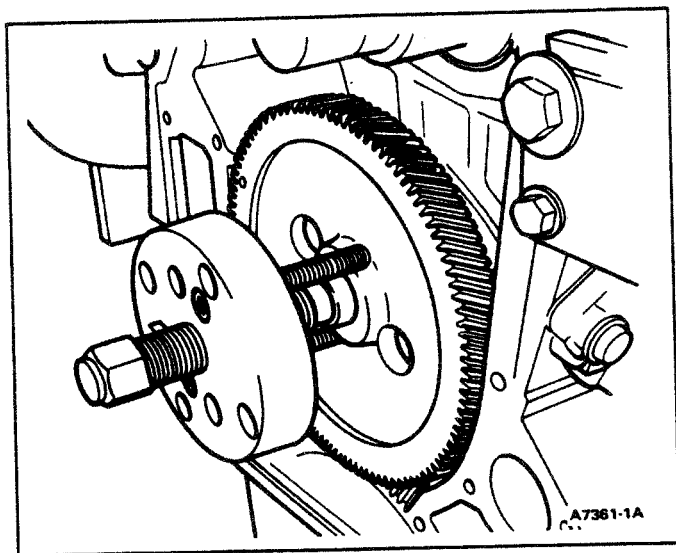

FIG. 44 Camshaft Drive Gear Removal
14. Install gear puller, Tool T83T-6316-A and remove gear (Fig. 44).